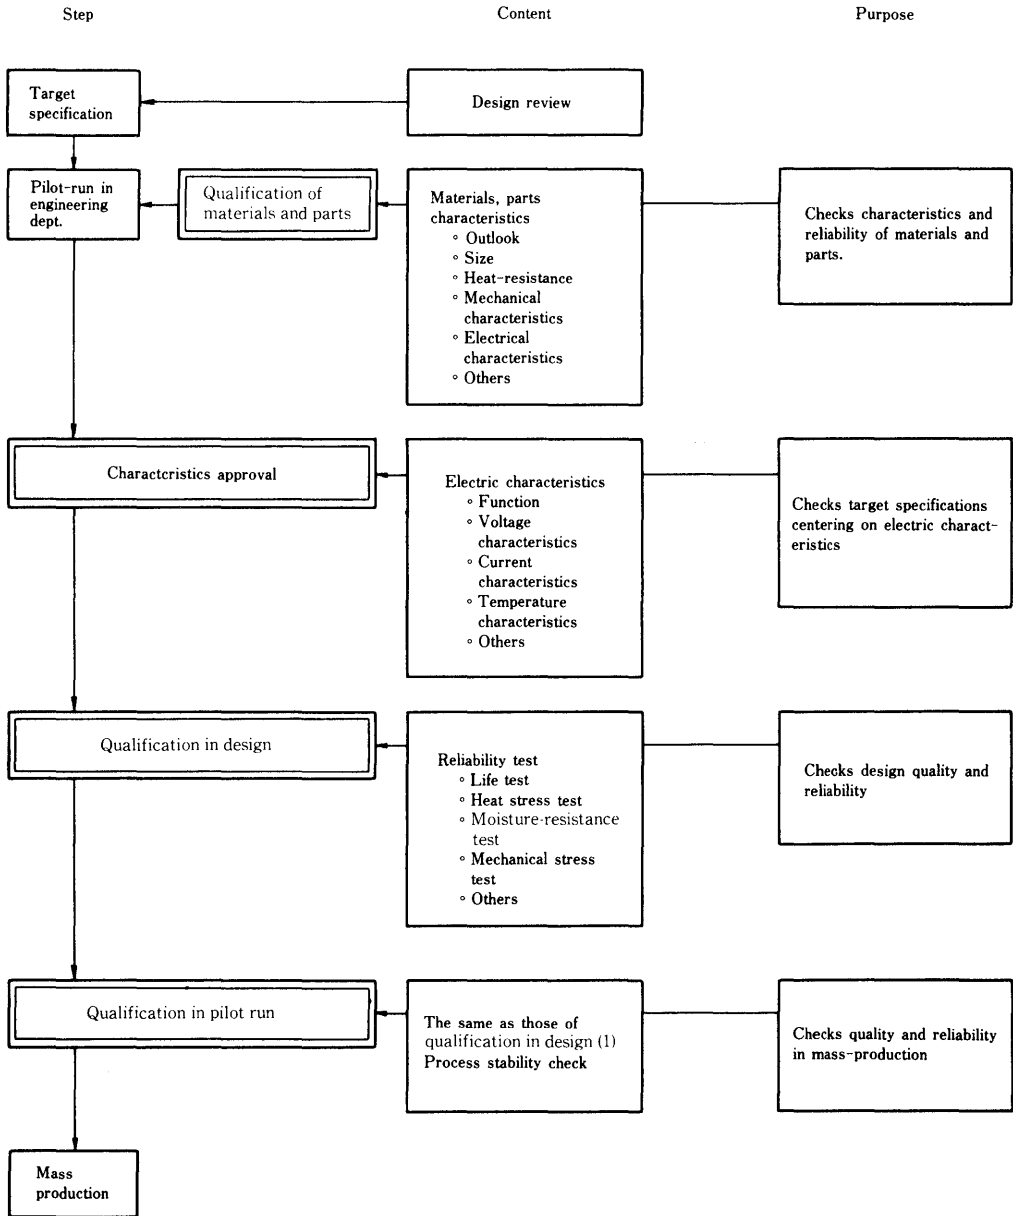

Fig. 2-19 Flowchart of quality authorization
- (1) Execute objective qualification from the customer's viewpoint
- (2) Fully consider past failure specimens and field information
- (3) Execute qualification also when design and process are changed
- (4) Execute elaborate qualification for parts' materials and processes
- (5) Determine control points at mass-production by examining processability and factors causing scatter
- Hitachi executes the quality qualification shown in Figure 2-19, considering the above.